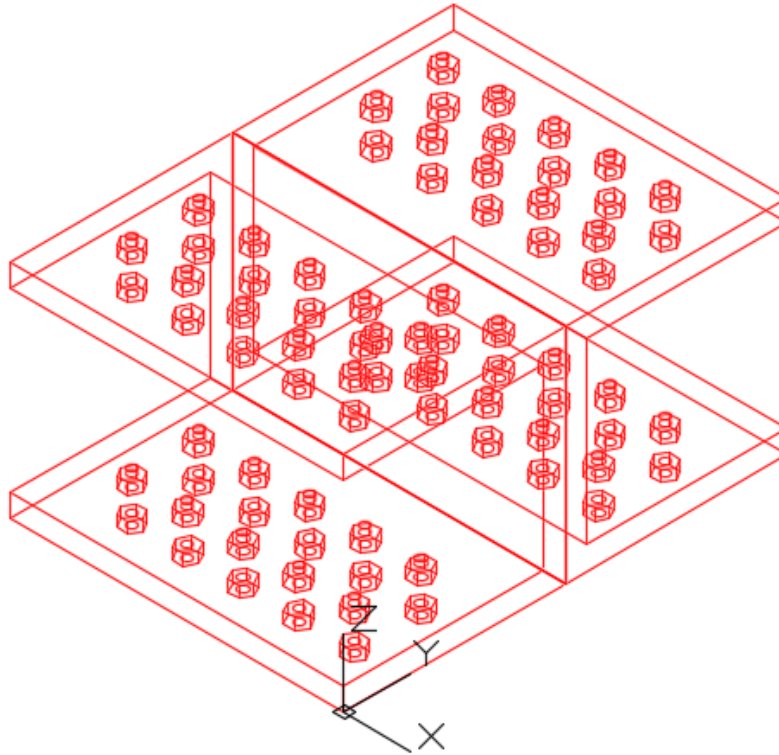

Figure Step 7
Step 7 Mirror the completed model. (Figure Step 7)